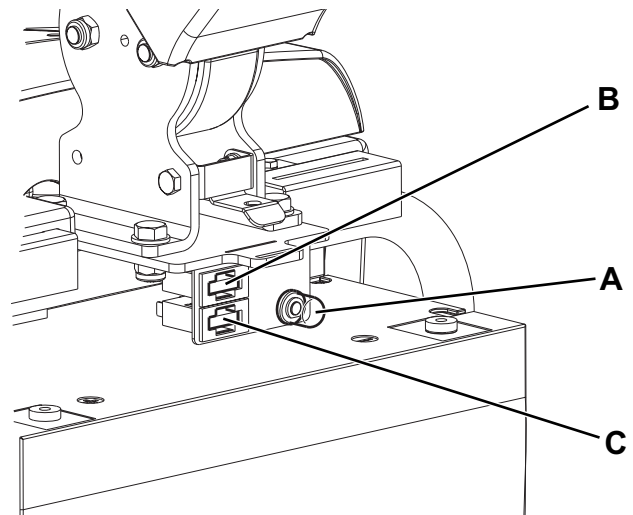

Figure 7
2. Turn the knob (32) to "0" and disconnect the battery (7).
3. Open the cover (4) and check one of the following fuses for deactivation or integrity:
- (A, Fig 7): F1 (30 A) circuit breaker, brush motor.
- (B): F3 (5 A) blade fuse, accessories.
- (C): F2 (30 A) blade fuse, vacuum system motor.